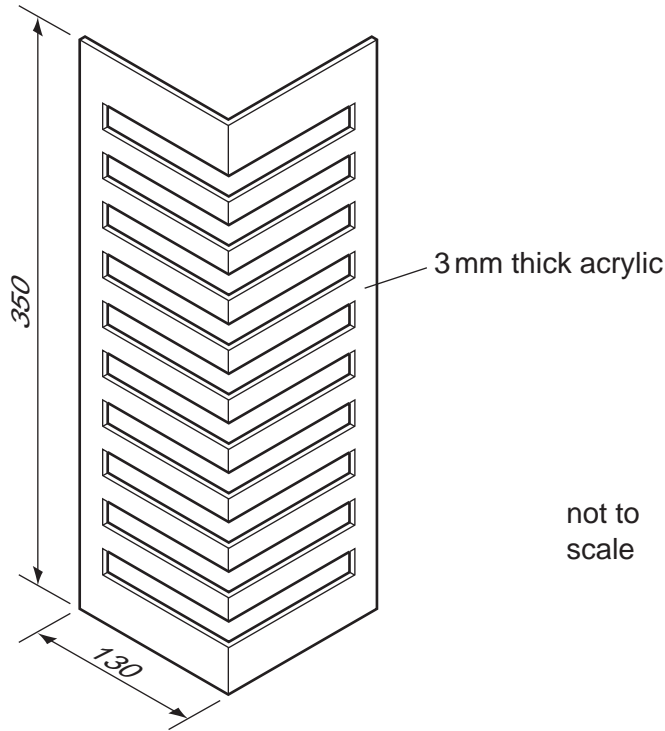

Fig. 10
12 Fig. 10 shows an incomplete design for a wall mounted DVD rack.
- (e) The DVD rack shown in Fig. 10 is to be wall mounted.